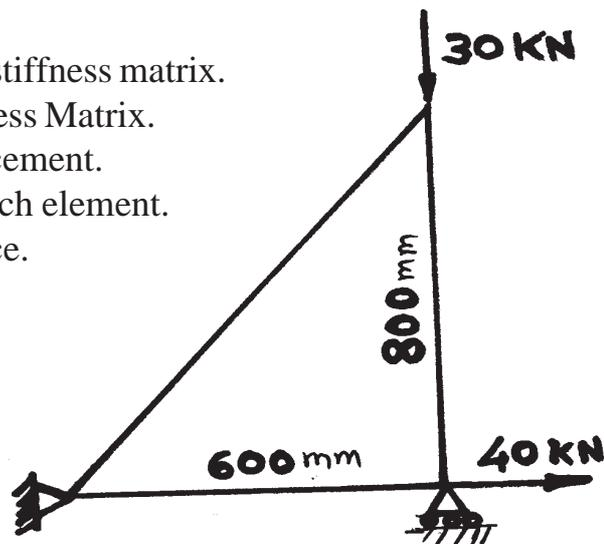

Figure 2, Q 5(b)
- Q5) A pin jointed structure is shown in Figure 2. [18]
- b) A three bar truss is shown in figure 2. Modulus of elasticity of the material is  $2 \times 10^5 \text{ N/mm}^2$ . The cross sectional area of each element is  $50 \text{ mm}^2$ . [12]